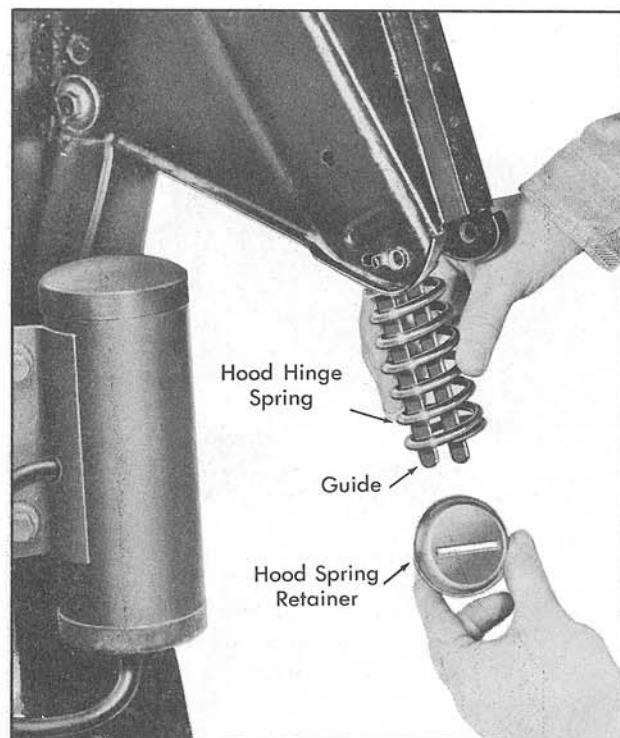

Fig. 16-4 Hood Hinge - Disassembled
5. Remove spring and retainer, Fig. 16-4.